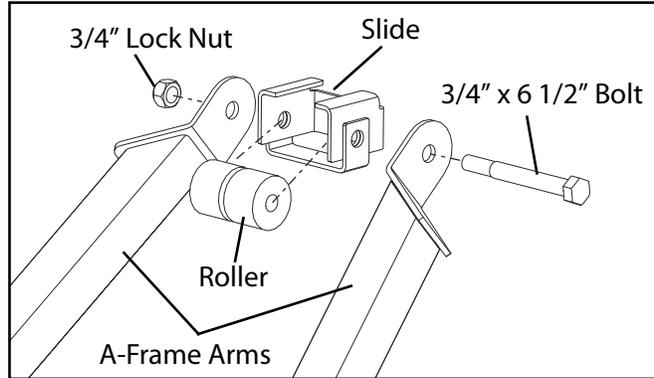

FIG. 3-13. Track Slide Assembly
8. Assemble the Slide and Roller to the other end of the A-Frame Arms as shown in Fig. 3-13. Do not over-tighten the nut. The Slide must be able to rotate between the arms.